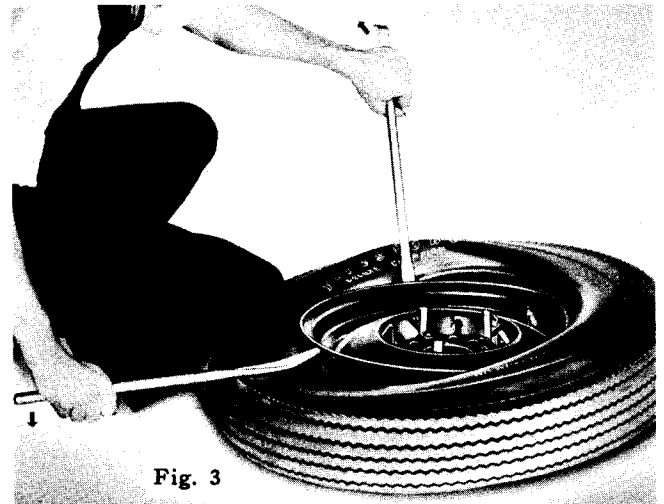

Fig. 3
9. Apply the second bead by forcing the portion of the tire *opposite* the valve down into the well of the rim and with tire tools work the remainder of the bead over the flange, alternating from right to left to prevent the tire from creeping on the rim. (See Figure 3.)